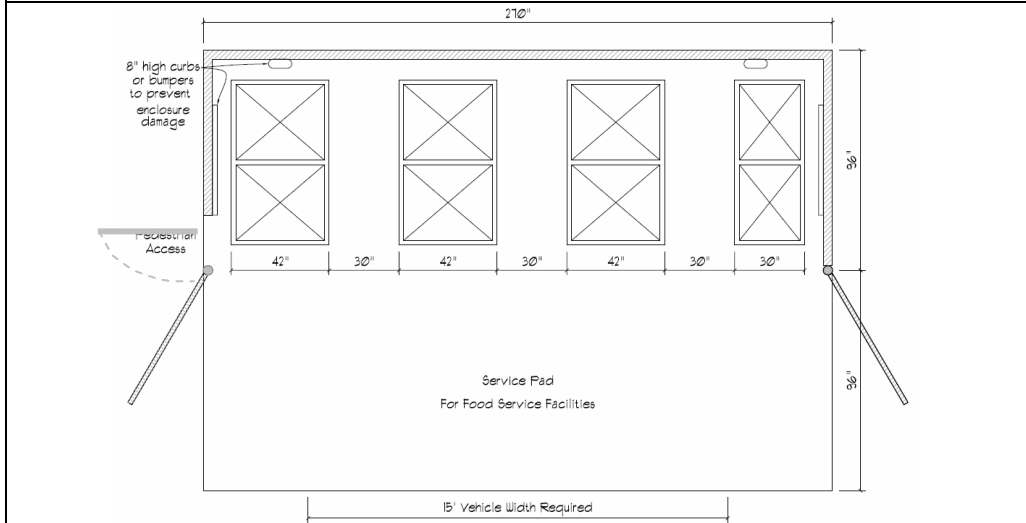

Figure 3
- **Food Service Facilities** (such as bakeries, restaurants, take-outs, and businesses with cafeterias): If the facilities maintain a food waste and a FOG bin, then the enclosure area should be sized to accommodate the access to and service of those bins. The size of food waste and FOG bins varies by hauler. As a general recommendation, provide sufficient space to accommodate a minimum 1.5 cu/yd bin for food waste and a 1.5 cu/yd bin for FOG waste or larger to accommodate anticipated generation rates (see **Figure 3**).